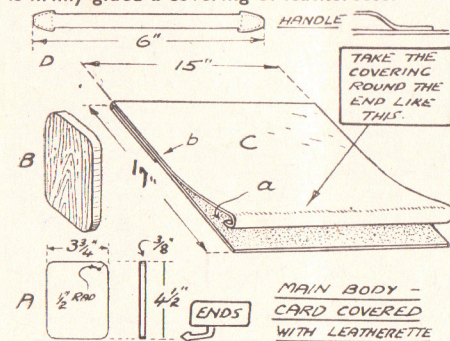

Fig. 2—Detail of parts needed
To make, first required are the two ends as (A), Fig. 2. Cut from any pieces of nice wood, $\frac{3}{4}$ in. thick, they are $4\frac{1}{2}$ ins. by $3\frac{3}{4}$ ins. and have the corners rounded to a curve of $\frac{1}{4}$ in. radius. The marking out of the corners is done by feeding a halfpenny up to them and drawing round it—a halfpenny being just 1in. in diameter. The detail at (B) shows one of the finished ends.
pletely drying out—which will not take long—cut the simple handle (D) Fig. 2. This is a strip of leather, 6ins. long and $\frac{1}{2}$ in. wide in the middle, but widening out to two rough arrow-head or heart shapes at the ends so it can be easily stitched on. A length of old strap slightly wider than $\frac{1}{2}$ in. and trimmed down in the centre will do well for this.